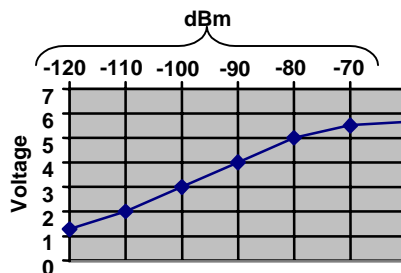

Figure 28 - T855 and T885, RSSI Curve: volt to dBm
- Vary the RF level and check the RSSI output voltage (Figure 28):